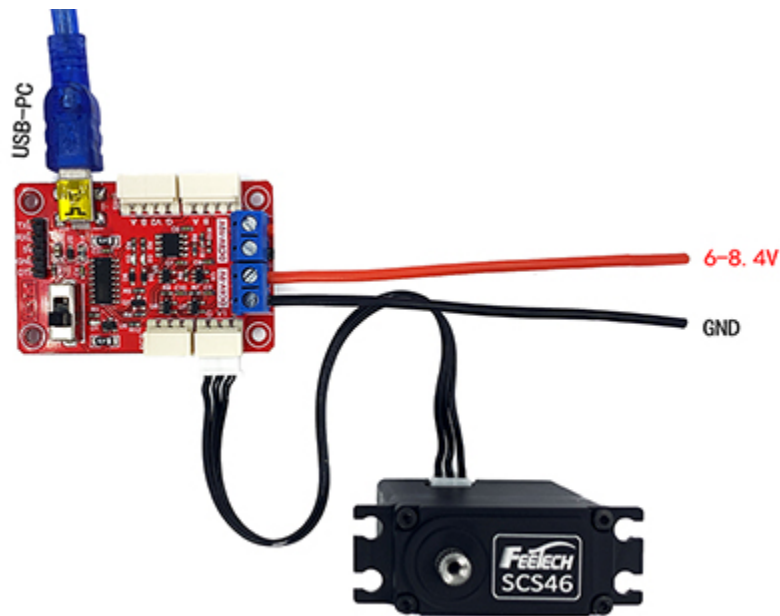

Figure 9.9: URT-1 motor driver board
4. Connect the motor on the robot over the URT-1 board (Figure 9.9) directly and control the servo motor to a predefined point and read the servo motor's encoder value with the motor troubleshooting tool, such as FT SCservo Debug tool provided by motor vendor.